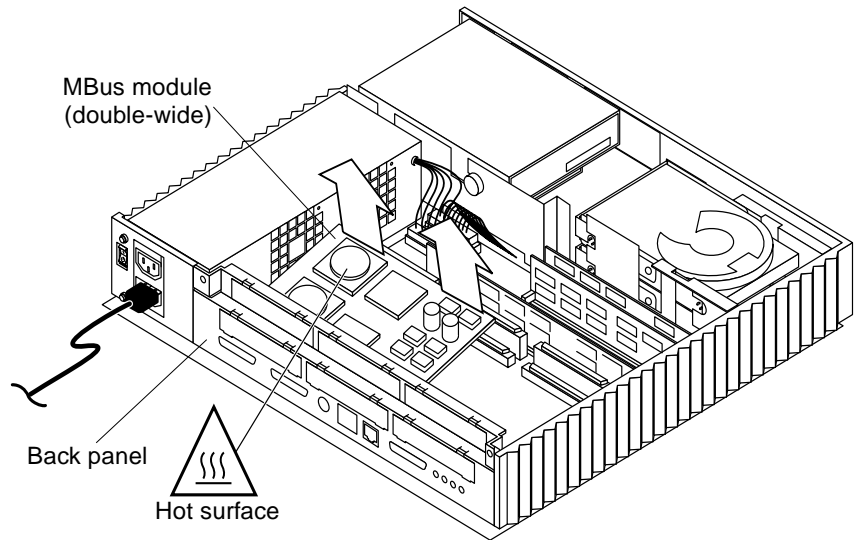

FIGURE 11-7 Removing a Double-Wide MBus Module
5. **Hold each edge of the MBus module and pull up on the module until the connector is out of the slot (FIGURE 11-7).**